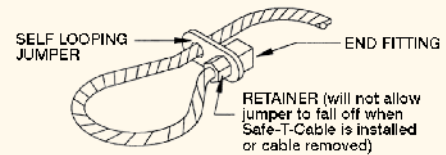
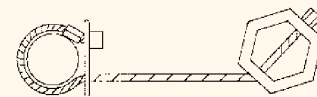

FIGURE 2: Self Looping Safe-T-Cable®
FIGURE 3: Self Looping Safe-T-Cable® Anchored to a PIN Assembly
1.3.5. Installing Holes: Safe-T-Cable® must be installed through the holes intended for this purpose in the part being secured, or through the holes provided in a self looping device (Figure 2) secured to the Safe-T-Cable® by the Safe-T-Cable® manufacturer. In applications where holes are not provided for Safe-T-Cable® in the component to which it is attached the self looping Safe-T-Cable® may be used in a manner like, or similar to Figure 3.